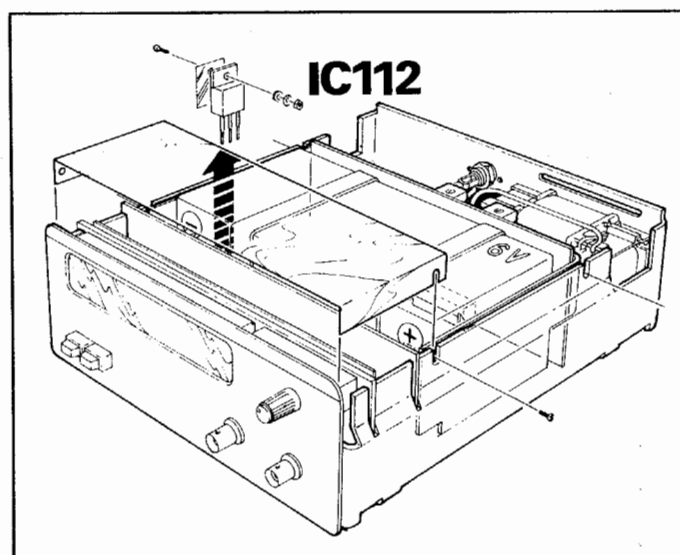

Fig 3.1 Mounting the battery unit.
The battery unit includes screws to secure the unit inside the counter. See figures 3.1 and 3.2 and proceed as follows:
- Remove the +5 V regulator IC112, see fig 3.1.
- Fasten the new screening plate with the two front screws on the battery unit, see also fig. 3.1. The old screening plate shall not be used.